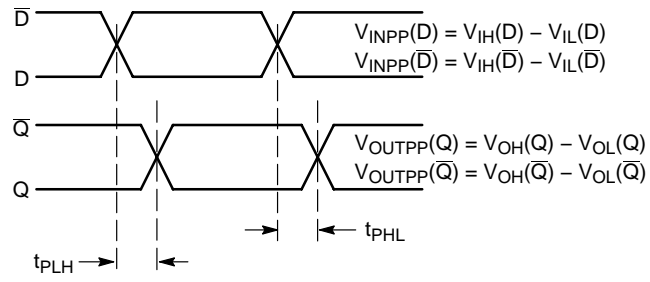

Figure 12. AC Reference Measurement
26. $t_{SKEW} = |t_{PLH} - t_{PHL}|$ for a nominal 50% differential clock input waveform. See Figure 12.
29. $t_{SKEW} = |t_{PLH} - t_{PHL}|$ for a nominal 50% differential clock input waveform. See Figure 12.